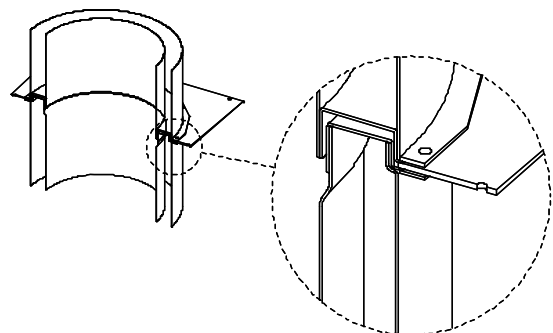

Figure 21 - Sectional detail for plate support
4. The anchor plate consists of a plate and eight clamp flange. See **figure 21** for sectional details for plate support.